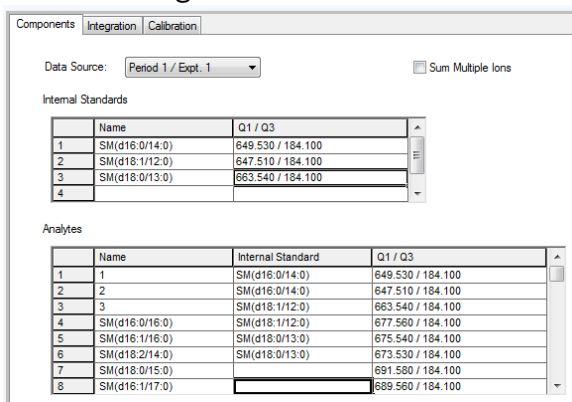

Figure 12: Quantitation method review window for global build of reference methods for chromatography data review of collected samples.
- Under “Build Quantitation Method” the user is able to select a data file previously collected, mark chromatography peaks as internal standards (IS) and indicate elution time (retention time) on a historical chromatogram file. The calibration of future data with this quant method is based on the peak integration of the reference chromatography peaks and the type of calibration curve set for this reference.
- See fig 12